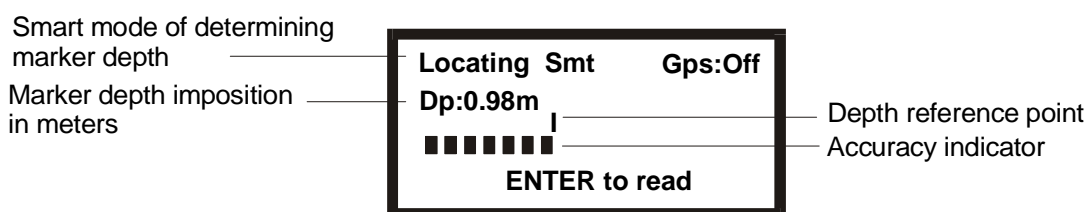
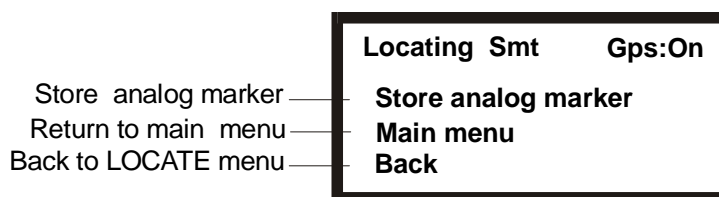
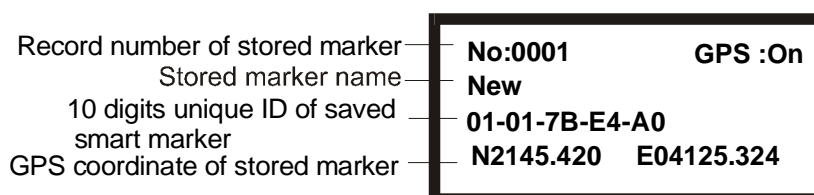
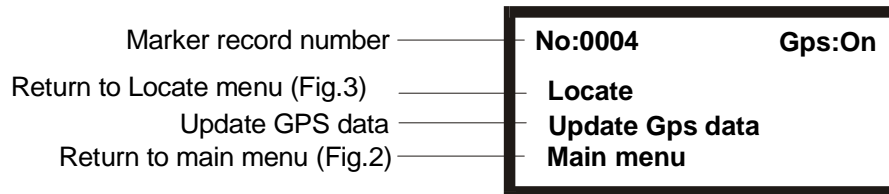

Fig. 3
Fig. 16a
Fig. 18
Fig. 19
Activate function Locate by using MENU button and ENTER button, and device is able to locate markers (Fig. 3).
4. When the marker is in Smart Marker Locator range, device signalizes it by acoustic intermittent tone (7 and 8, Fig. 1) and by accuracy indicator (Fig. 3). Signal intensity rises up toward the marker.
1. Press button ENTER in Locate menu (Fig. 3) and device will be in reading mode. If device does not recognize any smart marker till 10 seconds, display will show you: Smt. marker not found. Press ENTER. (Fig. 15). Press button ENTER and device will be back in Locate menu (Fig. 3).
2. If you want to store GPS coordinates of an analog marker, press button ENTER in Locate menu (Fig. 3), and then press button MENU. Then you can select (Fig. 16a): Store analog marker, Main menu, Back. Make required selection by using buttons MENU and ENTER. After storing the marker you will see information of the stored analog marker record. (Fig. 18). Press button ENTER and device will be back in Locate menu (Fig. 3).
When you store the smart marker you will then see (Fig. 18): record number of the marker, ID of the smart marker, name of the marker, GPS coordinates of the marker.
Press button ENTER after storing the marker information (Fig. 18) and device will be in Locate menu.
Press button MENU after storing the marker information (Fig. 18) and device will offer you more choices (Fig. 19): Locate, Update GPS data, Main menu.
If device recognizes smart marker and you don't want to store the smart marker, device will offer you choices, which were already described and displayed on Fig. 19.
If you still choose to store marker, then by using MENU button select Yes and press ENTER button. Device will store marker with GPS coordinates and will display stored marker information (Fig. 18).
1. After selecting marker record, device displays marker information (Fig. 18). Press button ENTER to start navigation